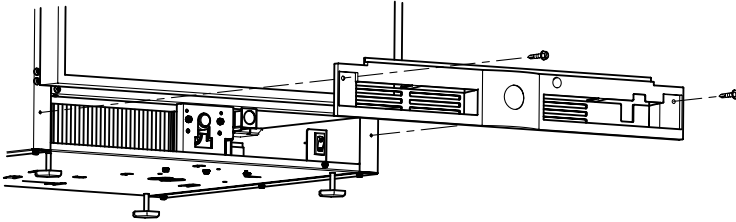

Figure 36
1. Remove the screws (Figure 36) at each end of the grille.